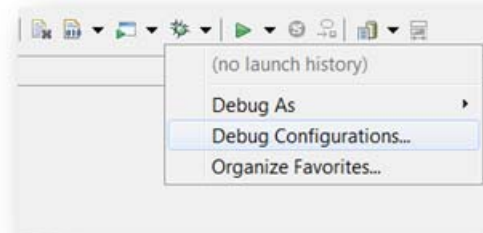

Figure 3-4: **Run Configuration**
2. Click the **drop-down arrow** on the **Debug** button and select **Debug Configurations...**, as shown in Figure 3-4.